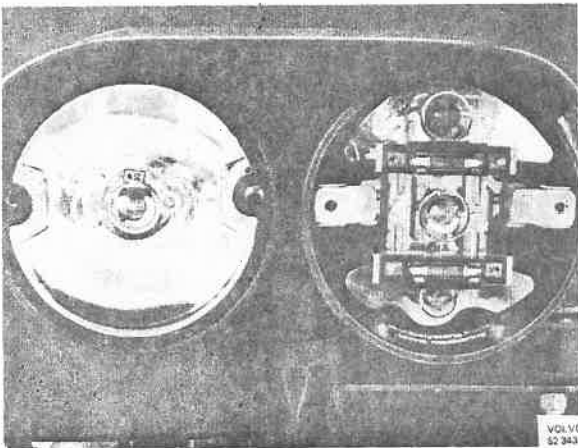

Fig. 35-10. Bulbs
2. Remove the defective bulb by pushing it in and turning it, or, if it is of the coil-shaped type, by pulling it straight out, Fig. 35-10.